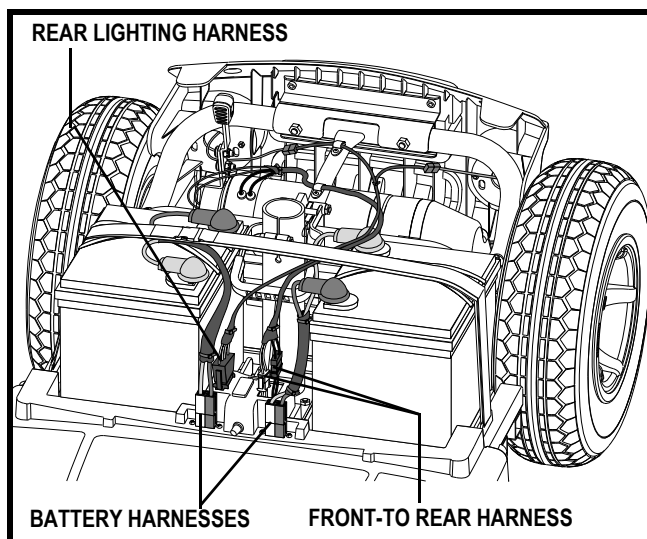

Figure 23. Harness Connections
6. Unplug both battery harnesses. Pull each harness straight up. See figure 23.
6. Connect the front-to-rear harness, rear lighting harness and both battery harnesses. See figure 23.